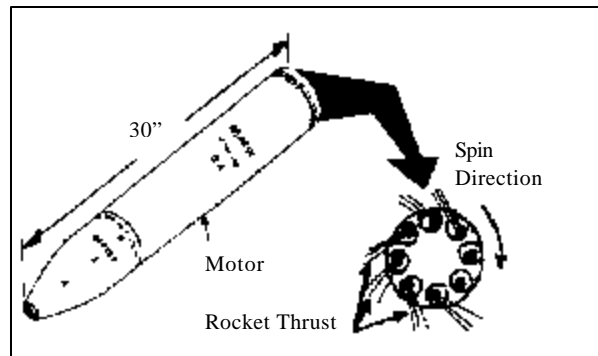

Figure 49. Spin-stabilized rocket.
- (6) Some rockets are spin stabilized. Unlike projectiles and mortars, these rockets do not have rotating bands. Instead, as shown in Figure 49, their motor nozzles are slanted to produce spin. The presence of motor nozzles, or venturies, in the rear of the rocket motor can be used for positive identification purposes for this type of ordnance. Generally, the rocket motor will not create an additional hazard, because the motor is usually burned out shortly after the rocket leaves the launcher.